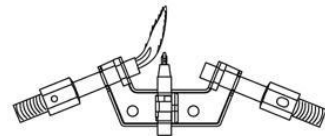

Figure 22- Incorrect Pilot Flame Pattern
- Figure 22 shows an incorrect pilot flame pattern. The incorrect pilot flame is not touching the thermocouple. This will cause the thermocouple to cool. When the thermocouple cools, the heater will shut down.
- If the pilot flame is incorrect, as shown in Figure 22. Turn heater off (see To Turn Off Gas to Appliance, page 16) See troubleshooting, page 19.